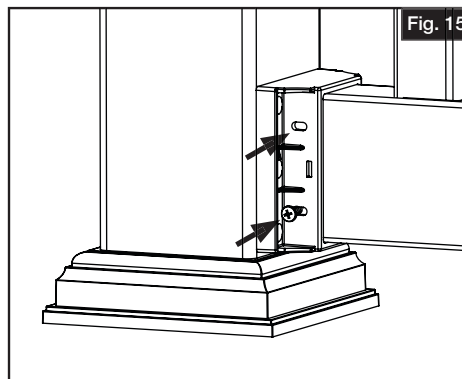

Fig. 15
- b. Install #10 x 1" screws in all pre-drilled holes (Fig. 15).